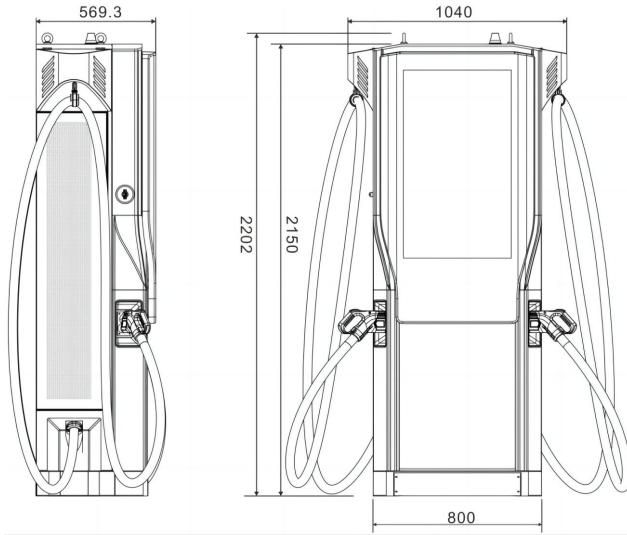

Fig. 4-1 The shape & dimensions of BoostQ
- The shape & dimensions of BoostQ Series charging station shown as Fig. 4-1.